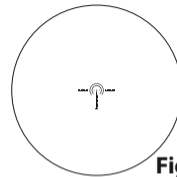
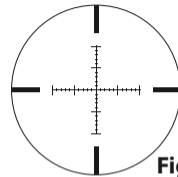
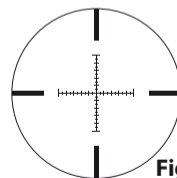

Fig. 3-4
Fig. 3-5
Fig. 3-6
(2) Focusing
- ① Look through the eyepiece with your eye positioned about 10 cm (4 in.) away from the eyepiece to see the SPEEDFORCE reticle (Fig. 3-4), the X-MOA reticle (Fig. 3-5), or the X-MRAD reticle (Fig. 3-6). Be sure your eye is positioned with proper alignment and with proper eye relief, otherwise the view will “black out.”
- ② Point the objective end of the scope at the sky (do NOT point it at the sun) or at a plain unpatterned wall.
- ③ Turn the eyepiece adjustment counter-clockwise and then turn it clockwise until the reticle appears sharp.